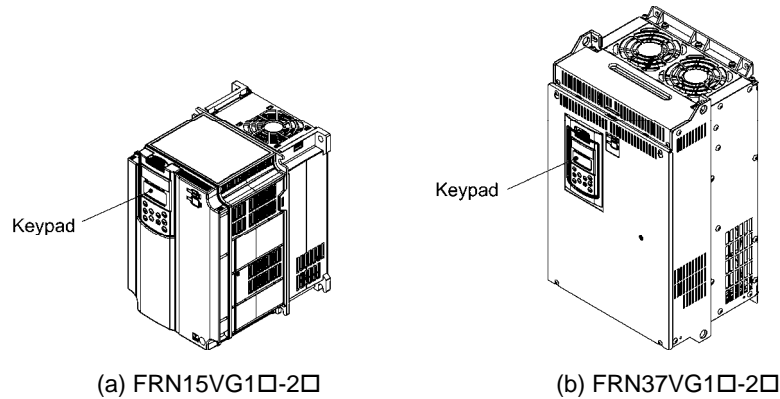

Figure 3.3-19 Mounting the Keypad Directly on the Inverter
- Mounting it directly on the inverter (See Figure 3.3-19 (a), (b).)